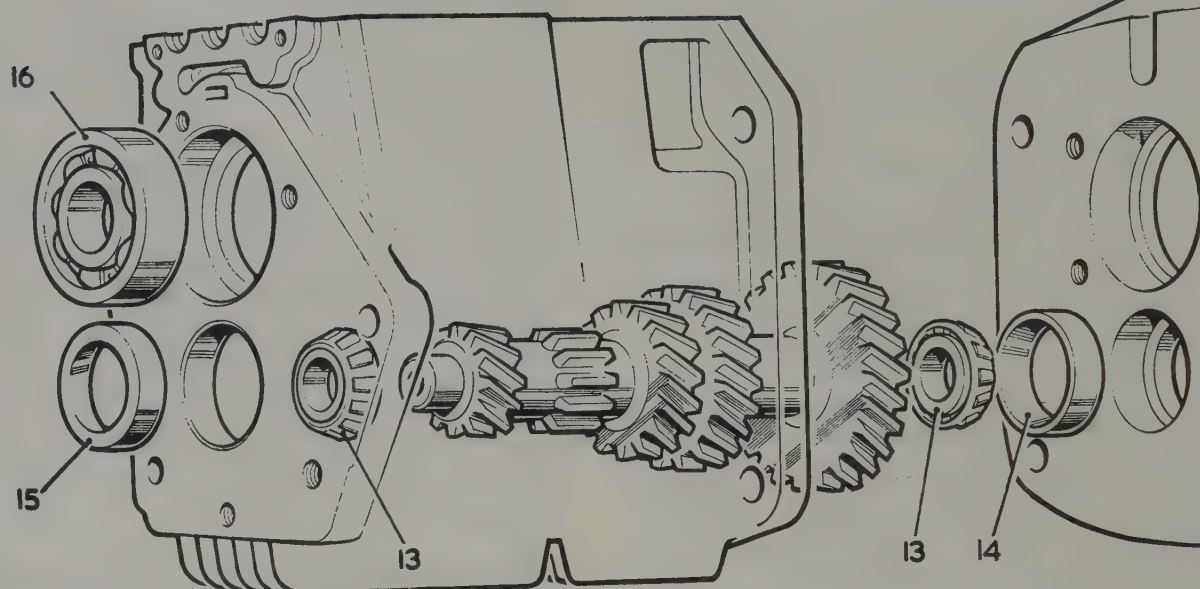

Fig. 6.18. Layshaft and bearings (13) outer bearing tracks (14 and 15) mainshaft rear bearing (16)
- 5 Refer to Fig. 6.18 and pull the two taper roller bearings "13" from the layshaft.